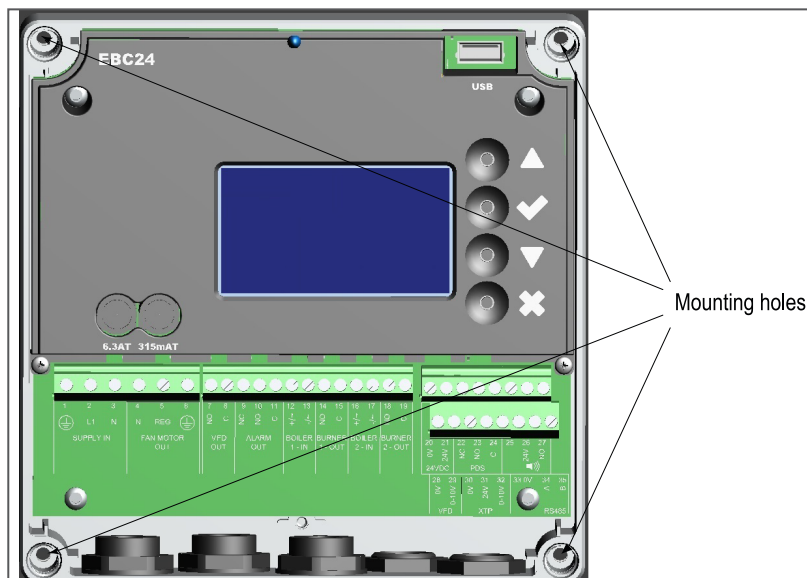

Fig. 3
- The mounting holes are located under the plastic screws that hold the cover in place (Fig. 3).
- The distance between the control and the transducer should not exceed three hundred (300) feet.